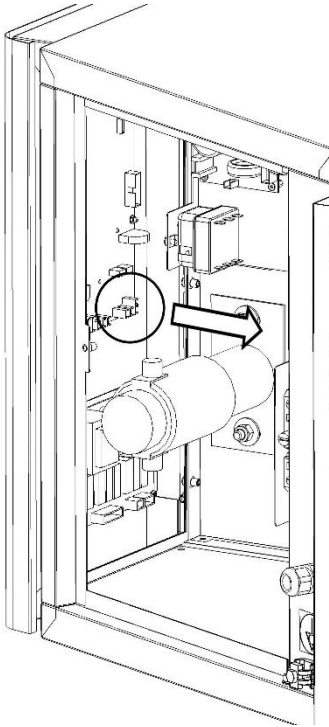

Fig.11A
- 3.Disconnect the electrical connections to the base board (Fig.11A).